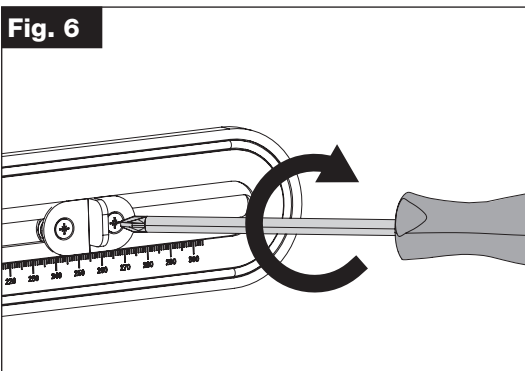

Fig. 7
- Loosen the Long Guide M4 Machine Screws to allow the Long Guide to slide freely (Fig. 7).